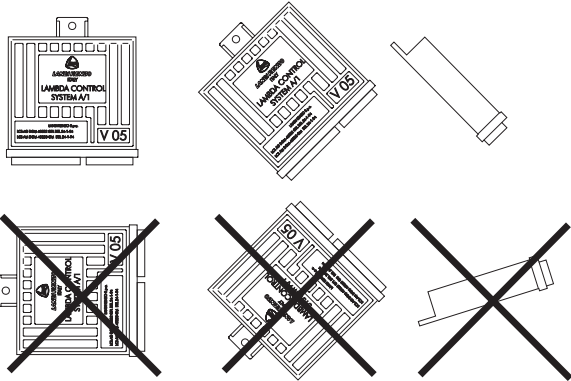

Fig. 3
3. INSTALLATION OF COMPUTER LCS A1 V05 (Fig. 3)